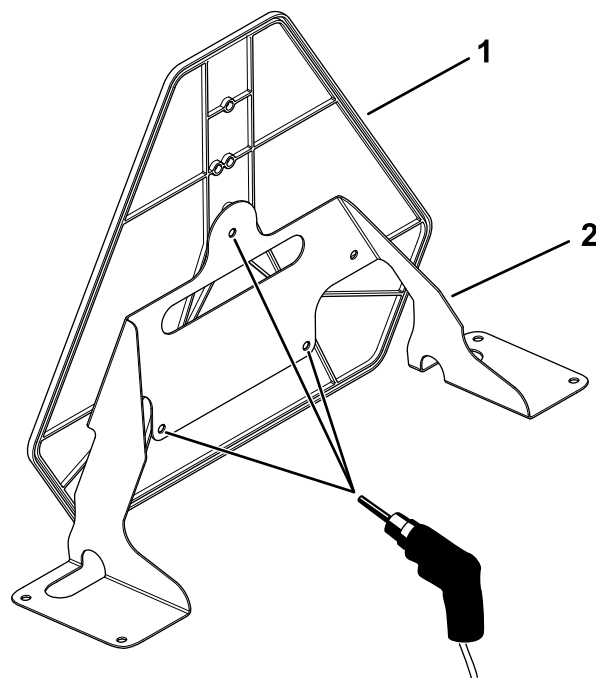

Figure 21
7. Using the marker mount as the template, drill 3 holes (5/16 inch) into the slow-moving vehicle sign (Figure 21).